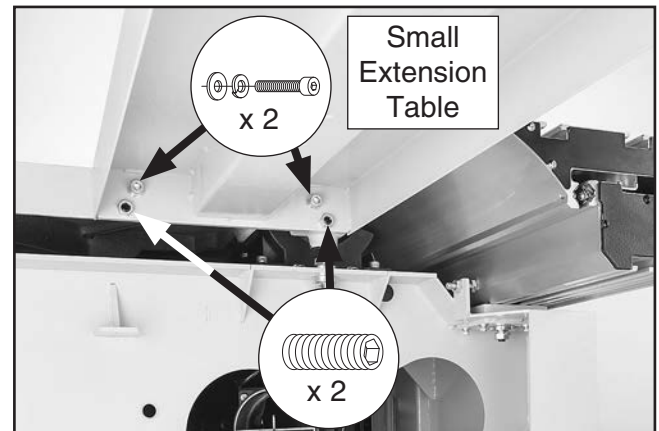

Figure 24. Small extension table attached to cabinet.
- Attach small extension table to cast-iron table with (2) M10-1.5 x 25 cap screws, (2) 10mm flat washers, and (2) 10mm lock washers (see **Figure 24**). Finger-tighten for now.
- Thread (2) M10-1.5 x 20 set screws with (2) M10-1.5 hex nuts where shown in **Figure 24**.
- If both tables are *not* parallel with straight-edge, loosen hex nuts on set screws shown in **Figure 24**. Adjust set screws to align top of small extension table with top of cast-iron table, then re-tighten hex nuts to secure setting.